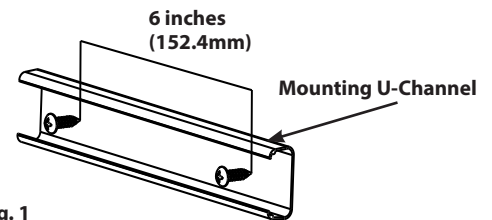
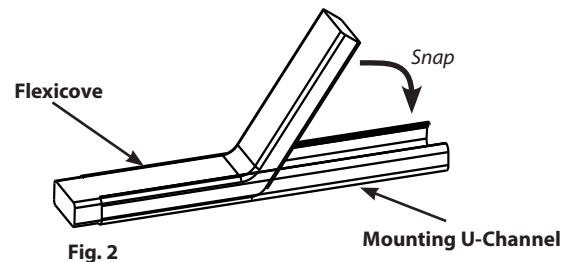

Fig. 1
Fig. 2
3. Secure **Mounting U-Channel** on wall or surface with self tapping screws or hardware (not provided) suitable for mounting surface every 6" (152.4mm) as shown in **Fig. 1**. Snap **Flexicove** into **Mounting U-Channel** as shown in **Fig. 2**.